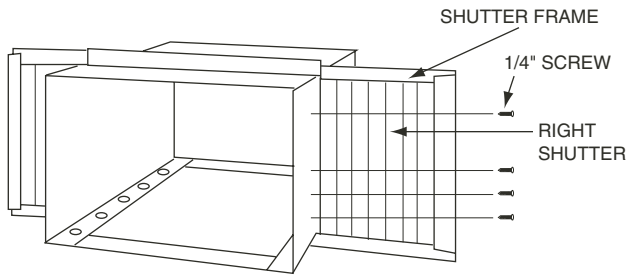

FIGURE 8 — SIDE SHUTTER INSTALLATION
9. Install the side shutters (provided). The side shutters are identified as right and left on each frame. Slide the top and bottom shutter frames into the top and bottom channels on the cabinet. Attach the shutters to the cabinet using four 1/4-in. screws (provided). See Fig. 8.